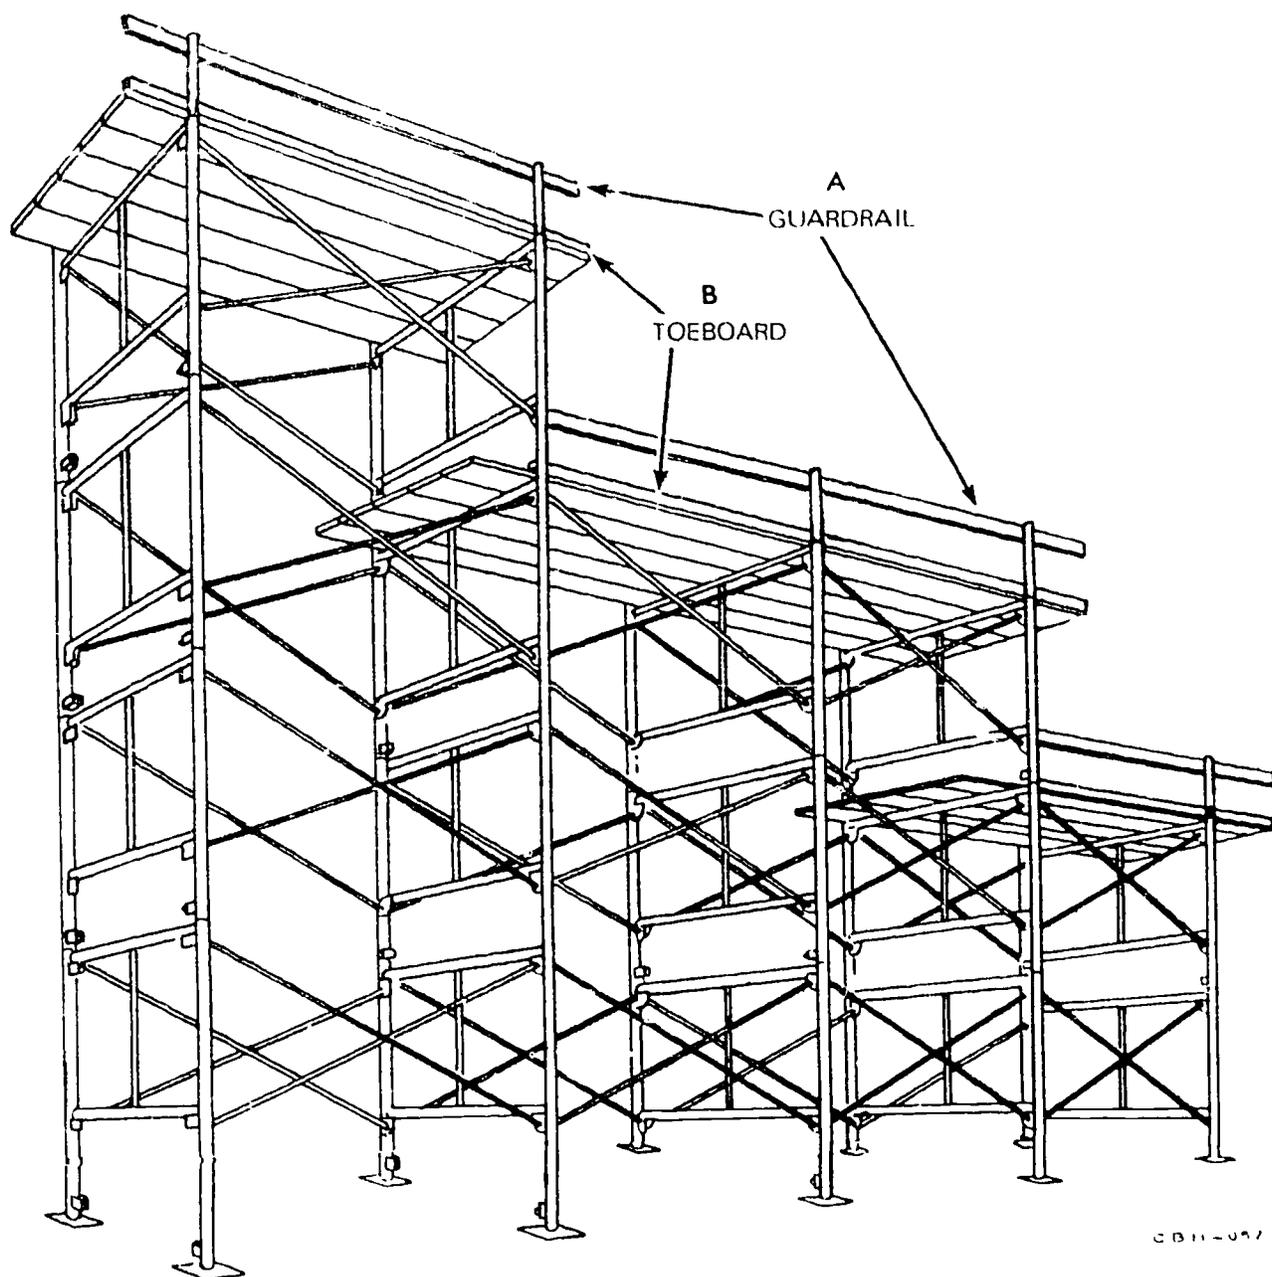
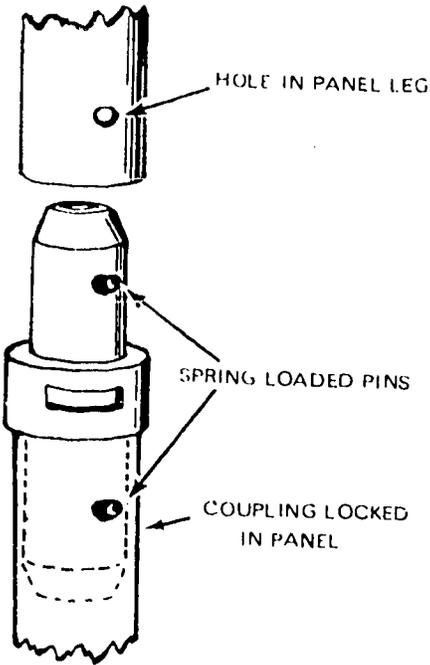

FIGURE 10. An erected scaffold
FIGURE 11. Coupling
e. Additional units can be installed until you have a scaffold as long and as tall as you need. Figure 10 shows an erected scaffold. The upright pieces of scaffold are held securely by couplings, as shown in Figure 11. Spring-loaded pins in the coupling automatically lock the sections together.